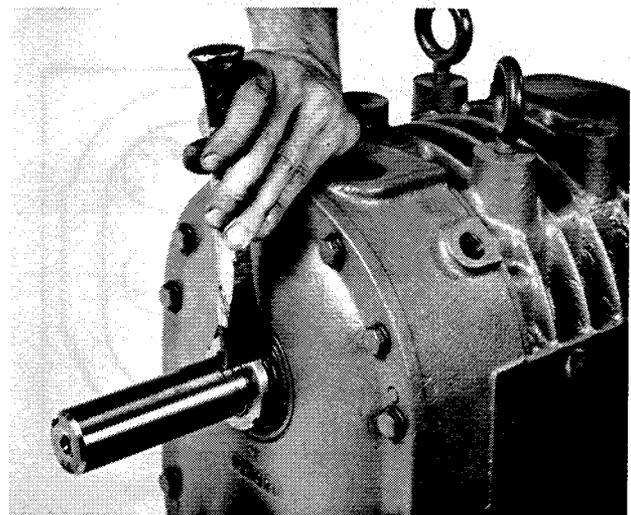

FIGURE 34
- ii. Reassemble lock nut (22) to drive shaft with chamfer toward blower body. Tighten lock nut securely with hammer and punch (see Fig. 34).